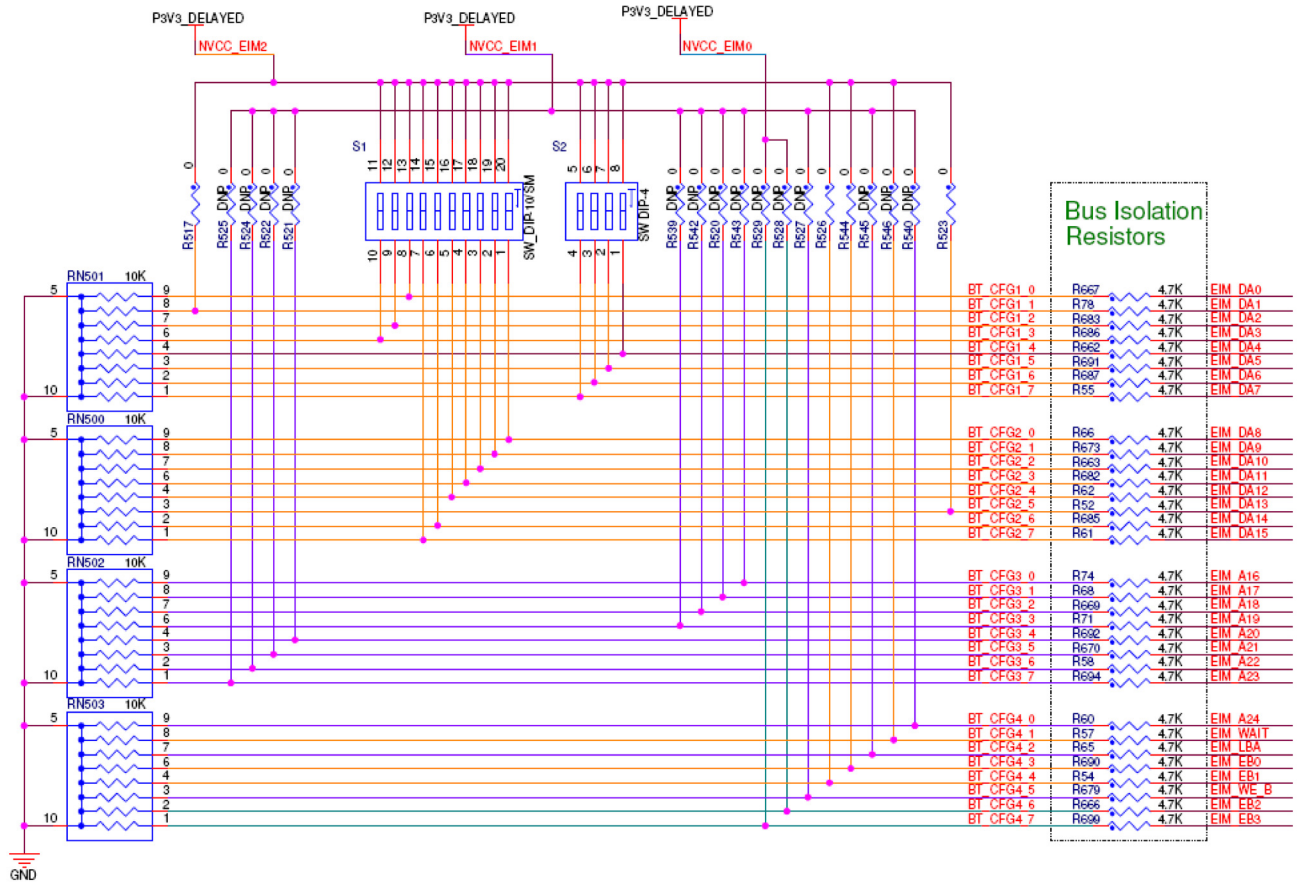

Figure 2-1. Boot configuration for development mode
1. When EIM boot signals are used as the system's EIM signals, other functions, or GPIO outputs after boot, use a passive resistor network to select the desired boot mode for development boards.	Because only resistors are used, EIM bus loads can cause current drain, leading to higher (false) supply current measurements. Each EIM boot signal should connect to a series resistor to isolate the bus from the resistors and/or switchers; see Figure 2-1 . Each configured EIM boot signal sees either a 14.7 k Ω pulldown or a 4.7 k Ω pullup. For each switch-enabled pulled-up signal, the supply is presented with a 10 k Ω current load.